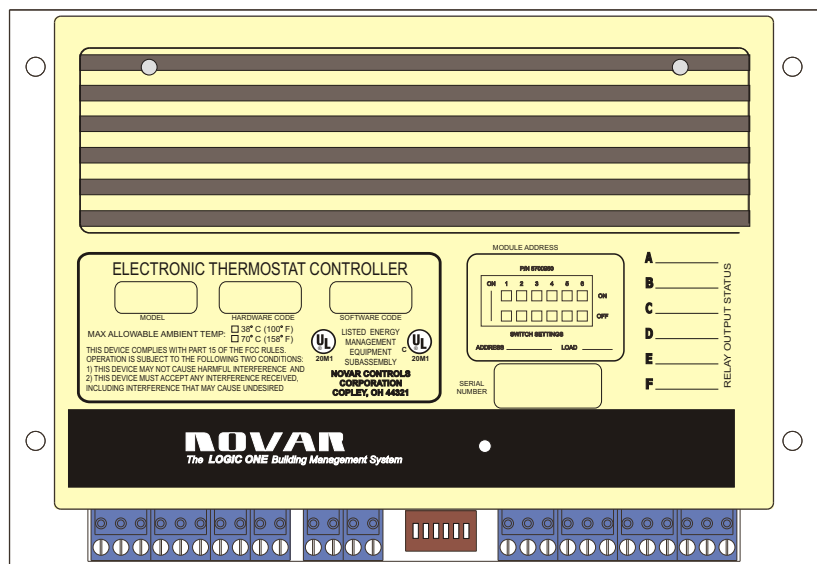

Figure 1. ETC module
The Electronic Thermostat Controller (ETC; Figure 1) is a dedicated, direct digital control module that provides precise and integrated control of unitary, packaged, staged HVAC systems. The Logic One[®] module efficiently controls two stages of heating and cooling, a fan, and damper operation.
- ETC relay output status LEDs located on the front of the module (see Figure 1).